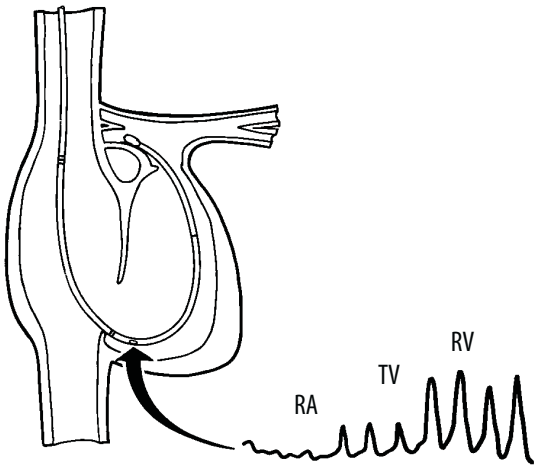

Figure 1. Proper RV port placement (1 to 2 cm distal to tricuspid valve)
2. Connect the catheter's RV lumen hub to a pressure transducer and verify proper placement of the RV port (1 to 2 cm distal to the tricuspid valve) (See page 5, Fig. 1). To prevent catheter movement, secure the catheter at the insertion site.